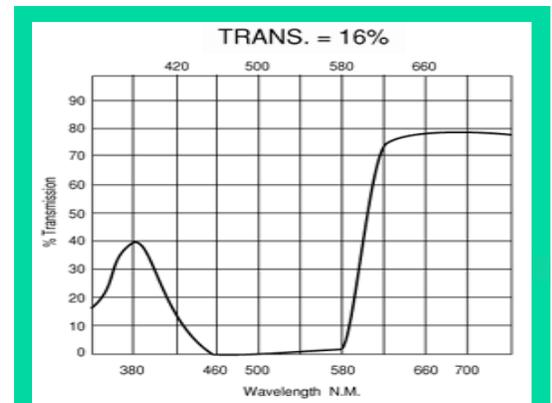

Figure 4 Rose Pink light transmission chart
**Task 3:** Design a controlled experiment to test the optical transmission and/or reflection characteristics of different materials. For simplicity you can use gel filters for your experiment, these have a well defined transmission curve for the visible light spectrum as seen in Figure 4. The curve here shows the percentage of energy transmitted through a Rose Pink colored gel filter across the visible light frequency spectrum